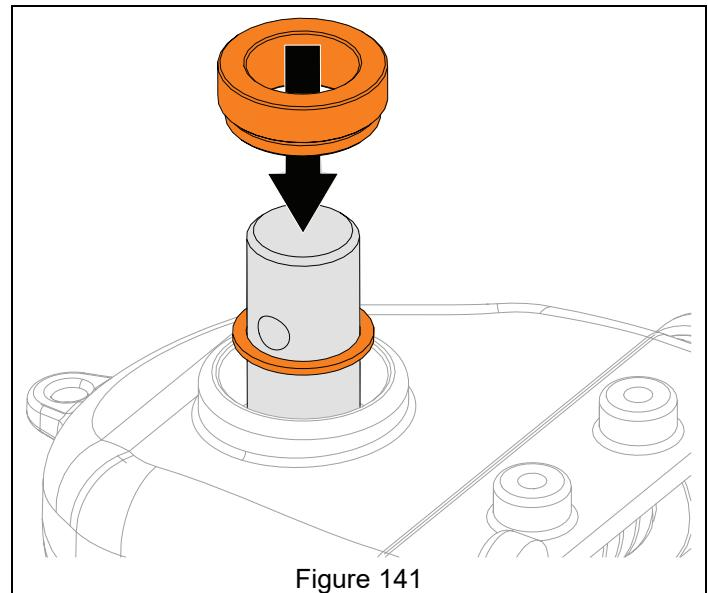

Figure 141
14. Reinstall one flat steel washer and bushing onto right auger shaft end. See Figure 141.